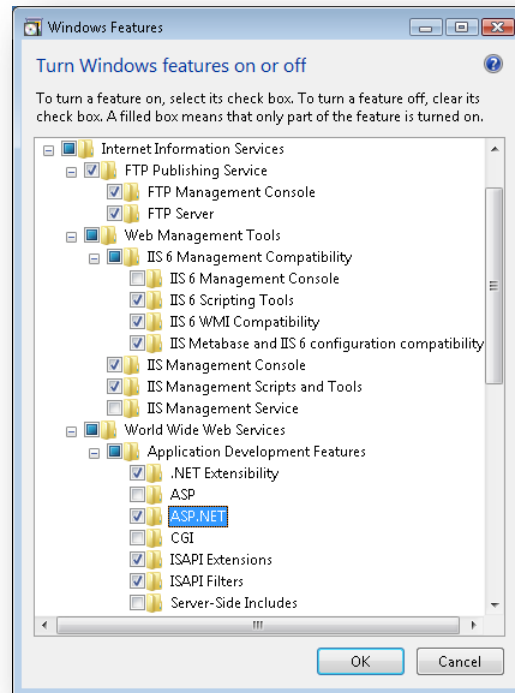
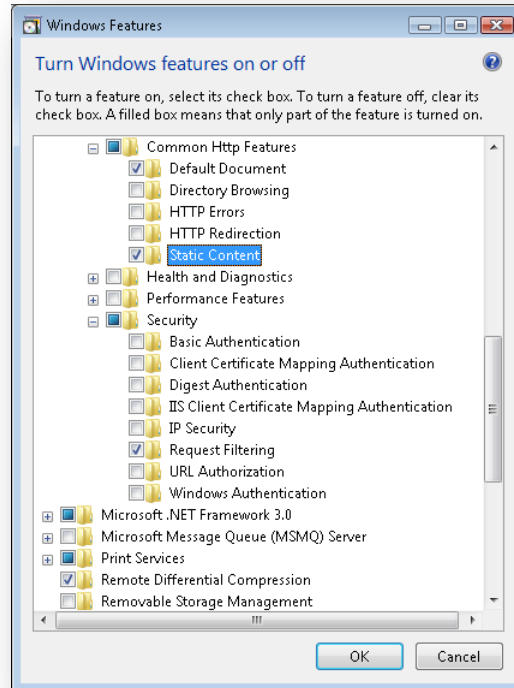

Figure 23 – Windows Features
Figure 24 – Windows Features
13. Verify that the selected Internet Information Services (IIS) options look like Figure 23 and Figure 24 on the following pages and click “OK” to install Internet Information Services.